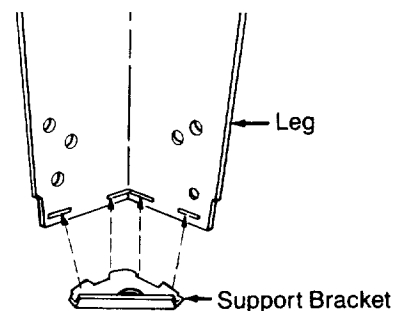

Fig. 18
1. Mount *floor leveler support brackets* inside legs. Line up the three tabs on *brackets* with slot on *leg* and tap into place. Make sure lip on *bracket* points up. (Figure 18)